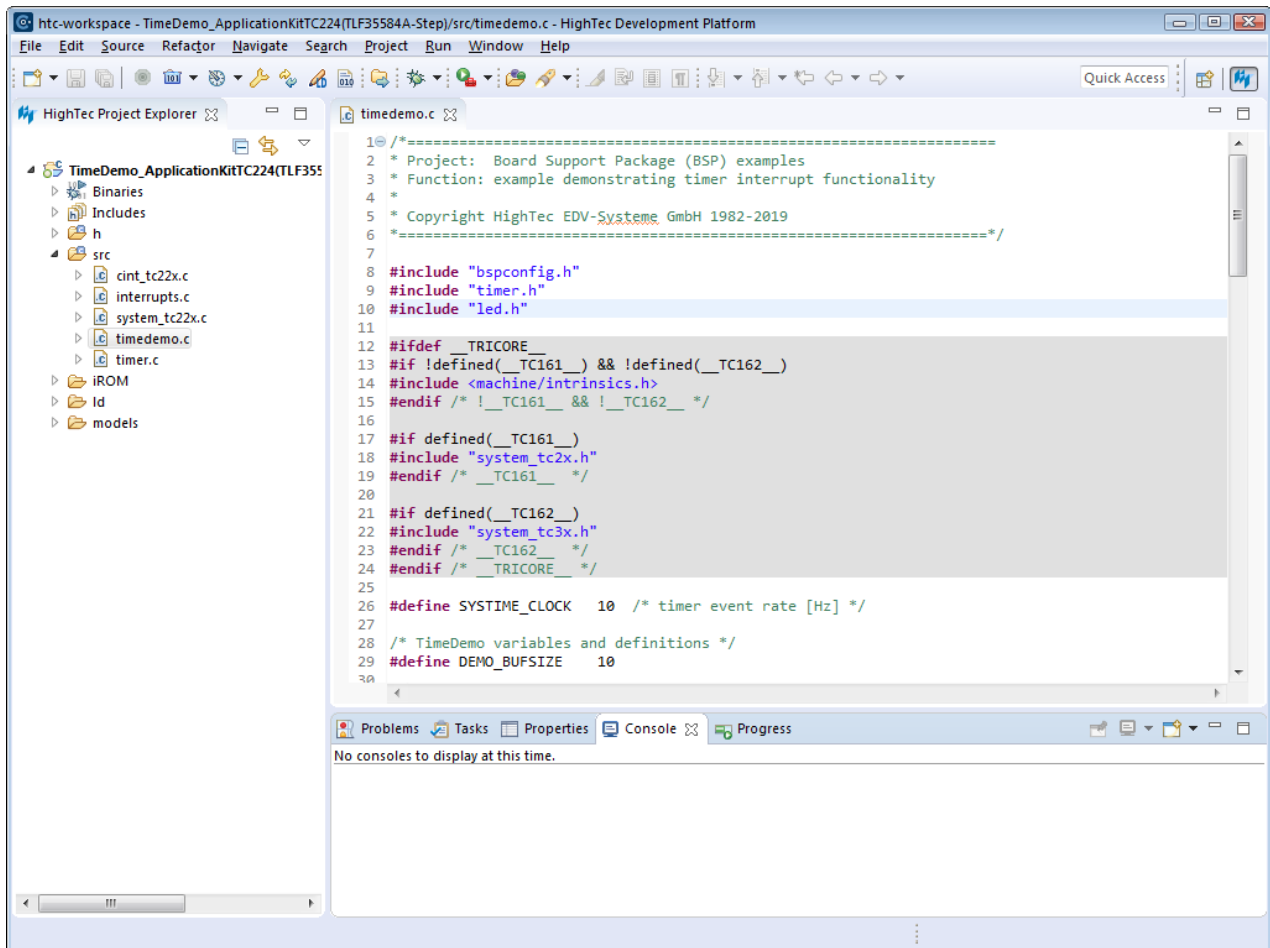

Figure 13 HighTec C/C++ Perspective with the new imported example
4. Click **Finish** to finish the wizard and to import the example. Figure 13 shows HighTec perspective with the new created project. To see the generated project files you may need to expand the hello project structure on the left pane. To open one generated file double-click the file in the **src folder** of the project structure.